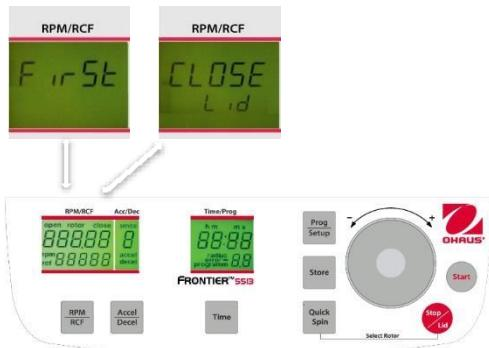
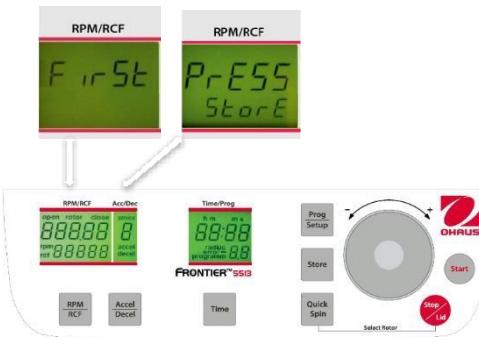

Figure. 20
Figure. 21
Close the lid of the centrifuge. Now proceed as described previously to set all important run parameters. If the lid isn't closed when storing the program, in the display RPM/RCF (A-1), the words FirSt and CLOSE Lid (see figure 20) flashes alternately. If you want to start the run without storing the program, in the display RPM/RCF (A-1), the words First and PrESS StoreE (See figure 21) flashes alternately.
For adaption of data press the key Store (2) (refer to figures 20 and 21) for approx. 1 second. If the program is stored correctly, the word Store appears in the display RPM/RCF (A-1). As a result, the word programm (M10) disappears.
You can start the centrifuge either with the **"Start"** key (10) (refer to figure 21) or the **"Quick Spin"** key (8).